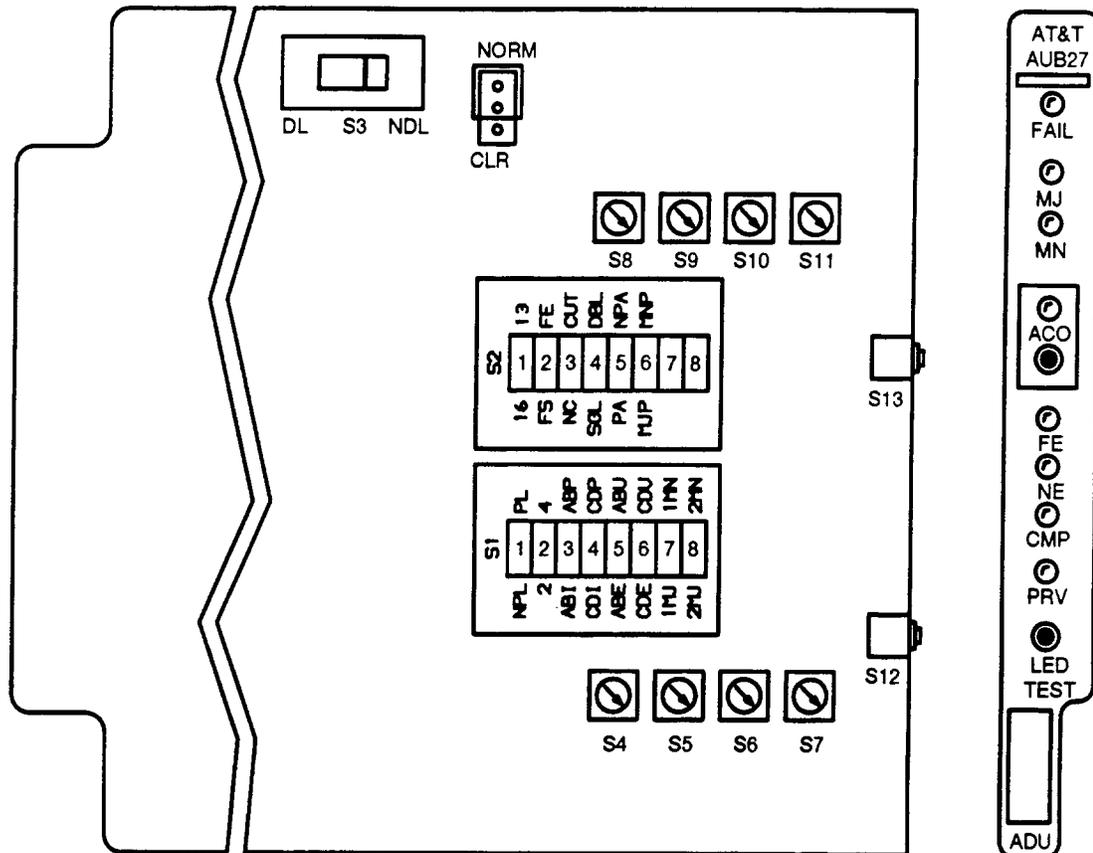

Figure 1 — AUB27 RT ADU Option Switch Settings
4. On **AUB27 ADU** option switch **S2** (Table A and Figure 1), use an orange stick (KS-6320) or equivalent and set switches as follows: